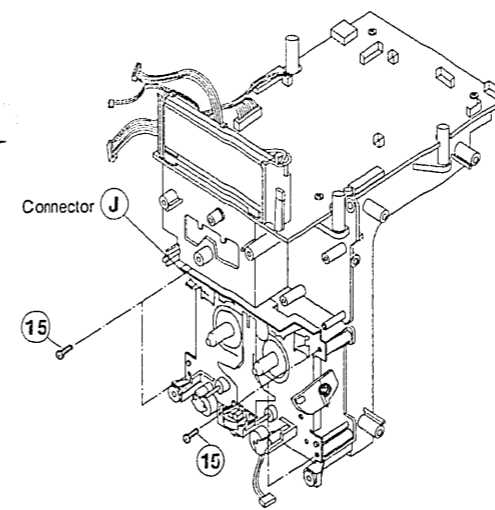

Fig. 12
- (1) Remove 3 screws ⑮ from the Main Chassis.
- (2) Pull out the Tuner P.W.B gently from CD P.W.B to disconnect ⑮ and then disconnect ⑯.
11. **Removal of Cassette Mecha deck (Fig. 12)**